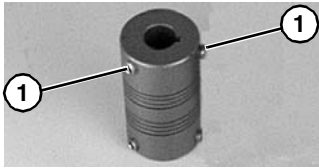

Figure 12
Coupling has two (2) set screws (Figure 12, item 1).